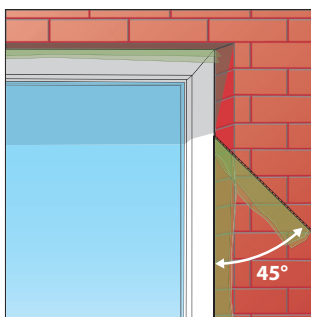

Fig 3:
- During installation of the frame, ensure that the tear-off strip is externally accessible. When ready to activate the tape, remove the film by carefully tearing at the metal perforation strip, ensuring that this is also removed. Continue pulling the film at an angle of 45° to the adhesive surface (as shown in Fig 3) and supporting the tape by pressing close to the point of tearing. Take care not to disturb the corner butt joints. This action will cause the strip to tear freely along the perforation line. The activated seal will now quickly expand to seal the joint.